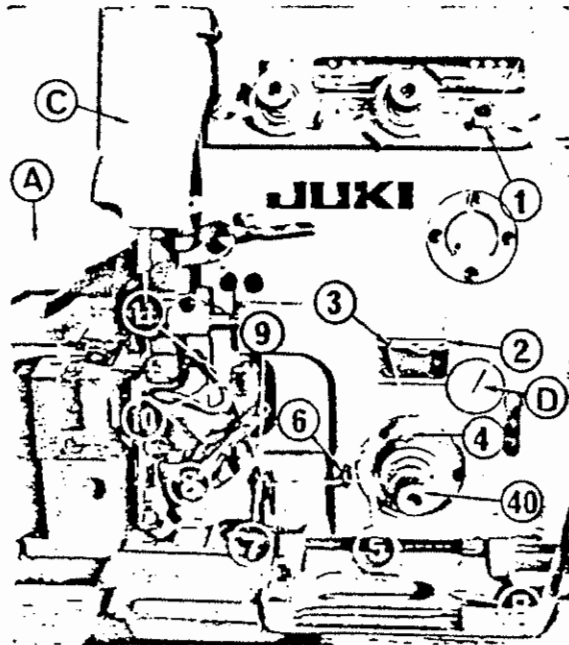

Fig. 9
(Please see Fig. 9)
Slide the looper cover ⑨ slightly to your right and tilt it towards you, rotate the pulley to lower the needle bar, then thread the upper looper in the order of ①—⑩ as shown in Fig. 9.
- [2] Adjust the upper looper thread by ④ of Fig. 9.
of the crankshaft cam. To do this, first move the looper cover to your right and tilt it towards you and release the feed adjusting hole set screw (D) Fig. 9.
When the adjustment is completed, tighten the set screw ② and cover it up with the feed adjusting hole screw (D), Fig. 9. The feeding amount can be adjusted from 8 stitches (3.2 mm) (1/8") to 18 stitches (1.4 mm) (1/128") per inch (25.4 mm)